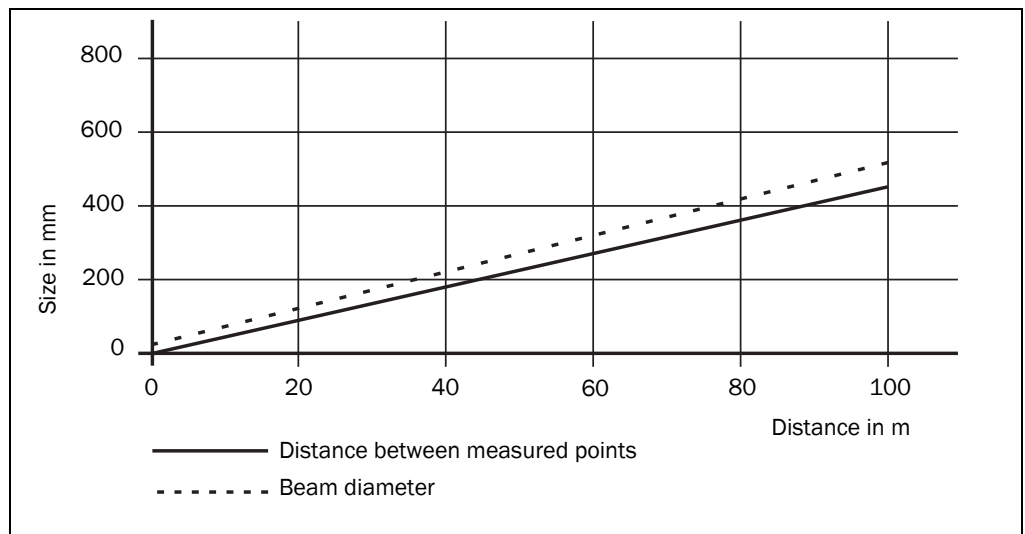

Fig. 7: Beam diameter and distance between measured points at 0 to 100 m
With increasing distance from the NAV310 the spacing between the individual measured points also increases. The diagram in fig. 7 shows the beam diameter and the distance between measured points as a function of the distance from the NAV310.
- For beam diameter and distance between measured points as a function of the distance from the NAV310 see the diagram in fig. 7.